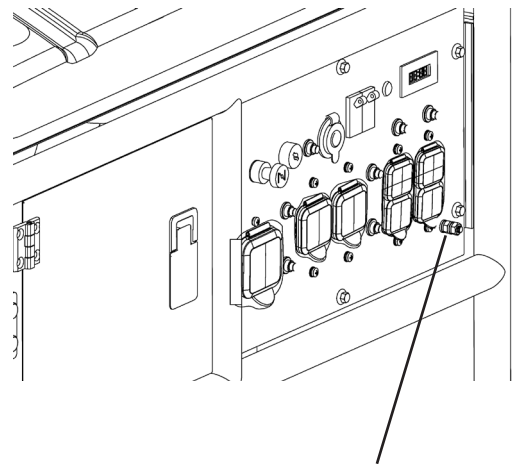

Figure 3 - Grounding Nut
Ground the generator by tightening the grounding nut on the front control panel against a grounding wire (Figure 3). A generally acceptable grounding wire is a No. 12 AWG (American Wire Gauge) stranded copper wire. This grounding wire should be connected at the other end to a copper, brass, or steel-grounding rod that is driven into the earth. Wire and grounding rods are not included in generator contents.
2. Check that the generator is properly grounded (see Figure 3, “Ground the Generator”).
Ground the generator by tightening the grounding nut on the front control panel against a grounding wire (Figure 3). A generally acceptable grounding wire is a No. 12 AWG (American Wire Gauge) stranded copper wire. This grounding wire should be connected at the other end to a copper, brass, or steel-grounding rod that is driven into the earth. Wire and grounding rod are not included in generator contents.